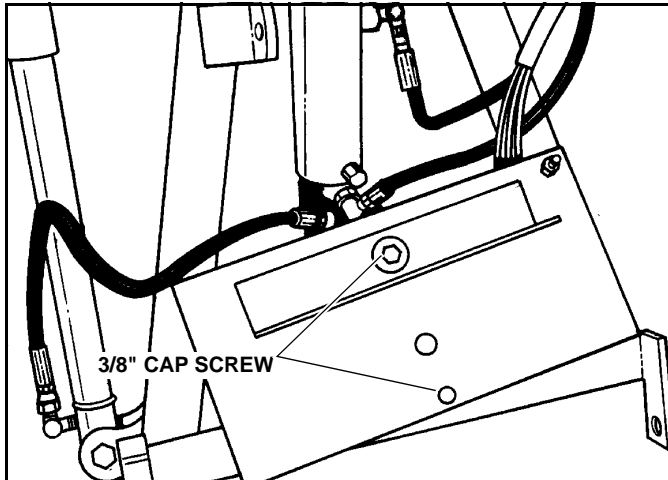

Figure 2-3
6. Tilt Power unit up and remove two 3/8" Cap Screws securing Pump unit to frame. (See Figure 2-3)